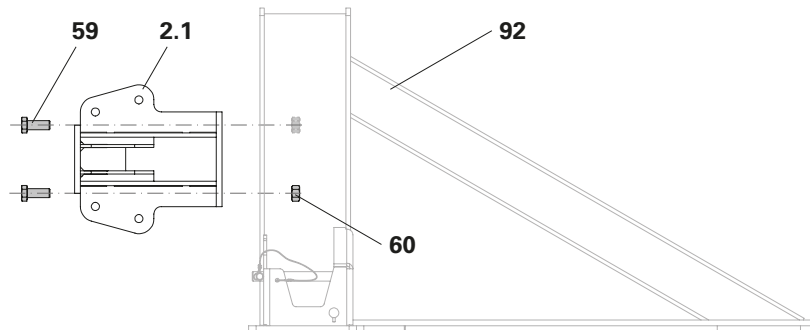

Fig. D2.06
1. Screw the Head Spindle (2.1) crosswise onto the Main Beam Bracket Alpha (92) using 2x bolt ISO 4017 M24 x 60 (59) and nut ISO 4032 M24-8 (60). (Fig. D2.06 + D2.06c)